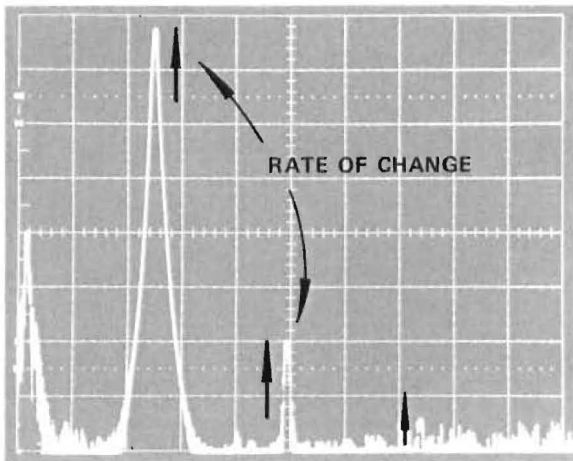

Figure 10 Distortion Crossover Point for Measuring Power
4. Watch the 2nd (2 kHz) and 3rd (3 kHz) harmonics of the 1 kHz tone. Increase the output level until the amplitude of the 2nd or 3rd harmonic increases faster than the 1 kHz tone. The level at which the harmonics (distortion) begin to increase radically (faster than the tone reference) is generally considered to be the MAXIMUM UNDISTORTED POWER OUTPUT (Figure 10).